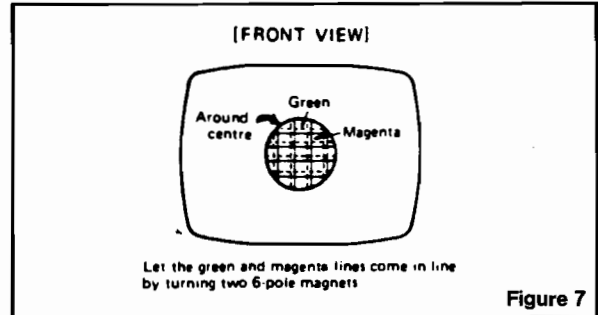

Figure 7
- 2.6 Turn on green input to obtain magenta (red/blue) and green crosshatch lines. Rotate the 6-pole (rear) pair of magnets as a unit to minimize separation of the magenta and green lines (Fig. 7). Vary angle between the two tabs and further rotate as a unit to finalize.